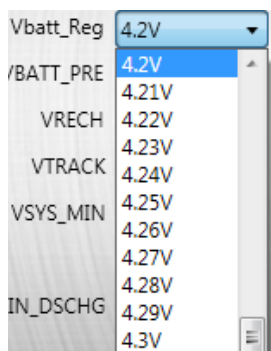

Figure 11: Charge-Full Voltage Setting
- Set the charge-full voltage (see Figure 11). Its range is 3.4V to 4.67V, and the default value is 4.2V.